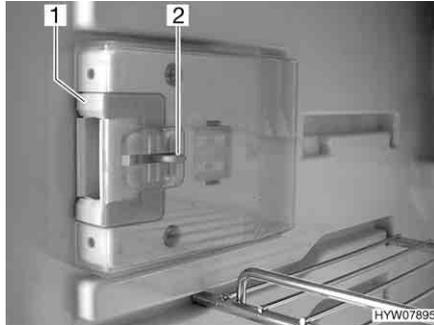
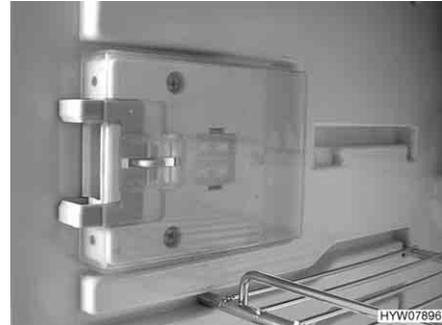

Fig. 239 Locking device in normal position
Fig. 240 Locking device in ventilation position
- Press down the unlocking device (Fig. 239,2).
- Push locking device (Fig. 239,1) forwards (Fig. 240).